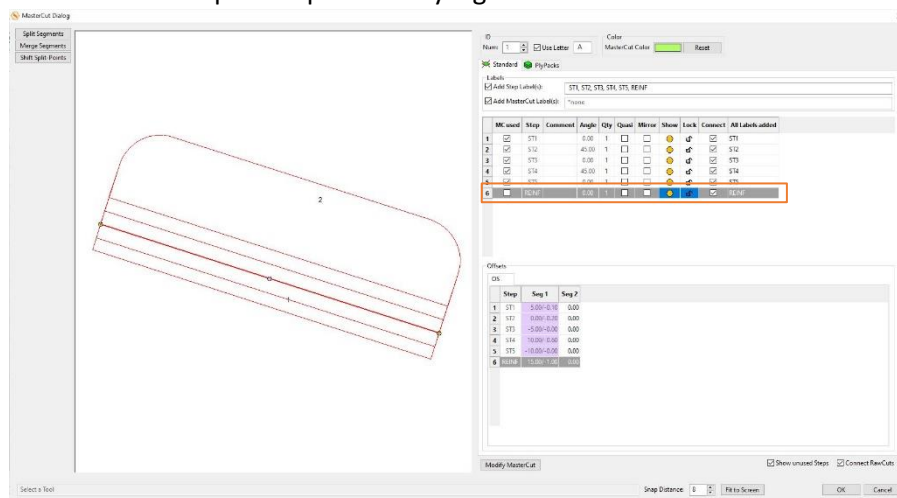

Figure 182
- (1) Open the MasterCut Dialog by double-clicking on the mastercut and uncheck the **[MC used]** checkbox for the “REINF” step as emphasized by Figure 182.